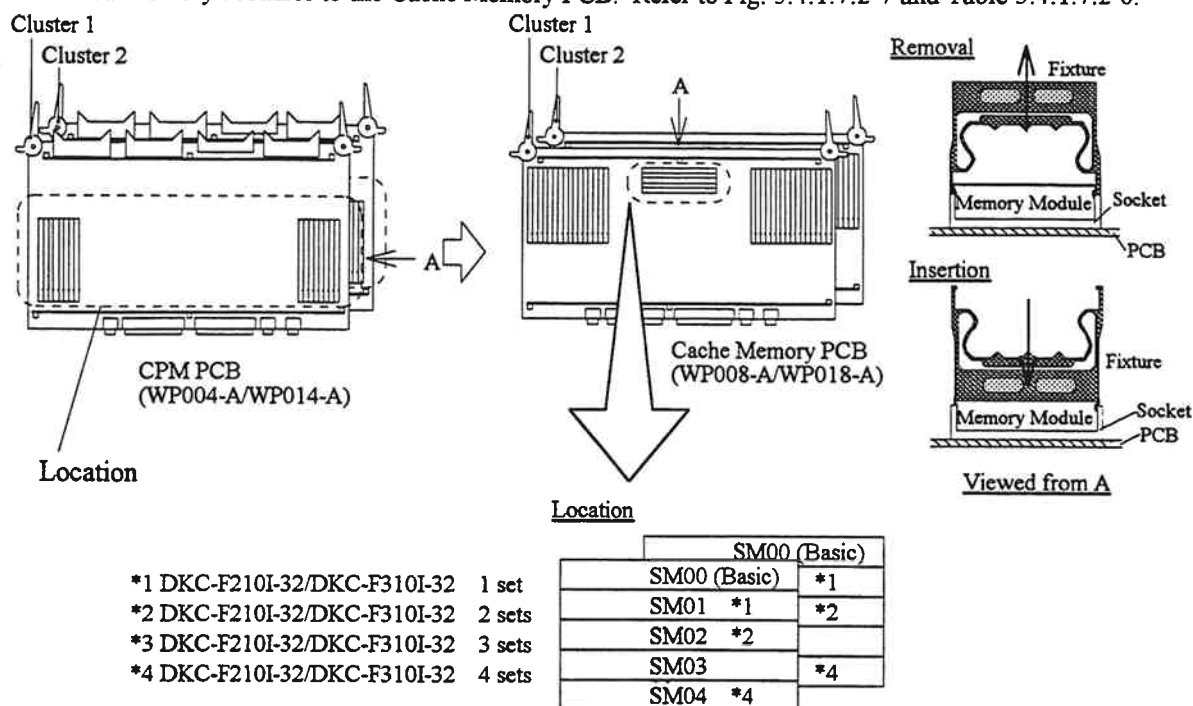

Fig. 3.4.1.7.2-7 Inserting Location of the Shared Memory Module
- a. Remove all the Shared Memory Modules from the CPM PCB. Mount the required numbers of the removed Shared Memory Modules to the Cache Memory PCB. Refer to Fig. 3.4.1.7.2-7 and Table 3.4.1.7.2-6.